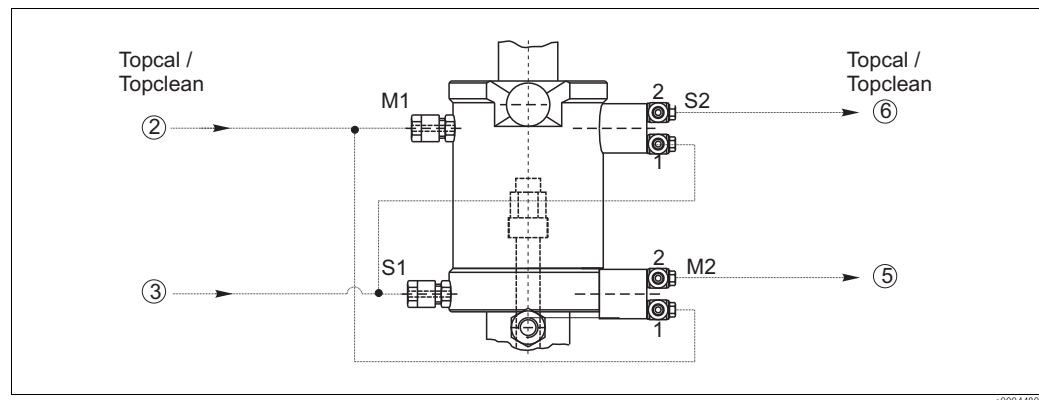

Fig. 10: Pneumatic connections and pneumatic limit position switches (1=inlet, 2=outlet)
1. Connect the compressed air supply line for "Assembly measuring" (Topcal/Topclean: hose no. ②) to the upper G 1/8 pneumatics connection (Fig. 10).
2. Also, connect the compressed air supply line no. ② to the inlet (1) of the lower limit position switch (M2, via T-piece). This limit position switch supplies the position feedback signal "Assembly measuring".
3. When the "Measuring" position is reached, the air applied to the inlet M2 (1) is switched through and can be tapped at the outlet M2 (2) (Topcal/ Topclean: connect hose ⑤ to the limit position switch outlet).
4. Connect the compressed air supply line for "Assembly service" (Topcal/Topclean: hose no. ③) to the lower G 1/8 pneumatics connection.
5. Also, connect the compressed air supply line no. ③ to the inlet (1) of the upper limit position switch (S2, via T-piece). This limit position switch supplies the position feedback signal "Assembly service".
6. When the position "Service" is reached, the air applied to the inlet S2 (1) is switched through and can be tapped at the outlet S2 (2) (Topcal/ Topclean: hose no. ⑥).